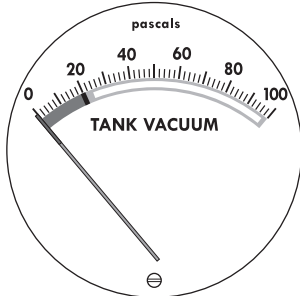

Fig. 2) Tank vacuum gauge (zero point and adjustment screw in bottom part of the gauge)
1. Before starting a procedure, with the Heater-Cooler 3T and the vacuum source switched off, verify that the tank vacuum gauge indicator located on the heater-cooler is positioned at "0" (see Figure 2). If necessary, set the indicator needle to "0" using the adjustment screw near the bottom of the gauge.